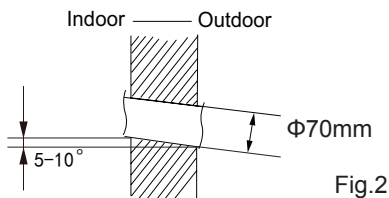

Fig.2
(2) Open a piping hole with the diameter of $\Phi 70\text{mm}$ on the selected outlet pipe position. In order to drain smoothly, slant the piping hole on the wall slightly downward to the outdoor side with the gradient of $5\text{-}10^\circ$. (As show in Fig.2)